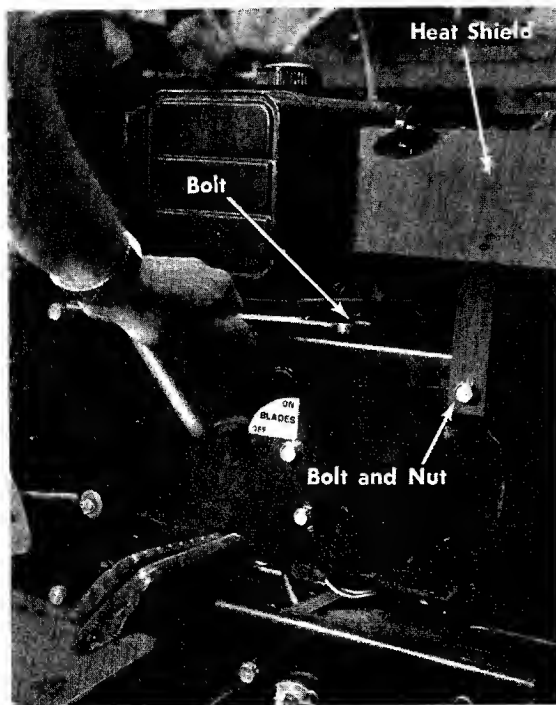

FIGURE 13. BELT GUARD
- g. Remove the top bolt on the belt guard. See figure 13.
Different heat shields are used depending on the style of muffler used on your tractor. If the heat shield on your tractor is attached to the belt guard it is necessary to remove the bolt and nut shown in figure 13.